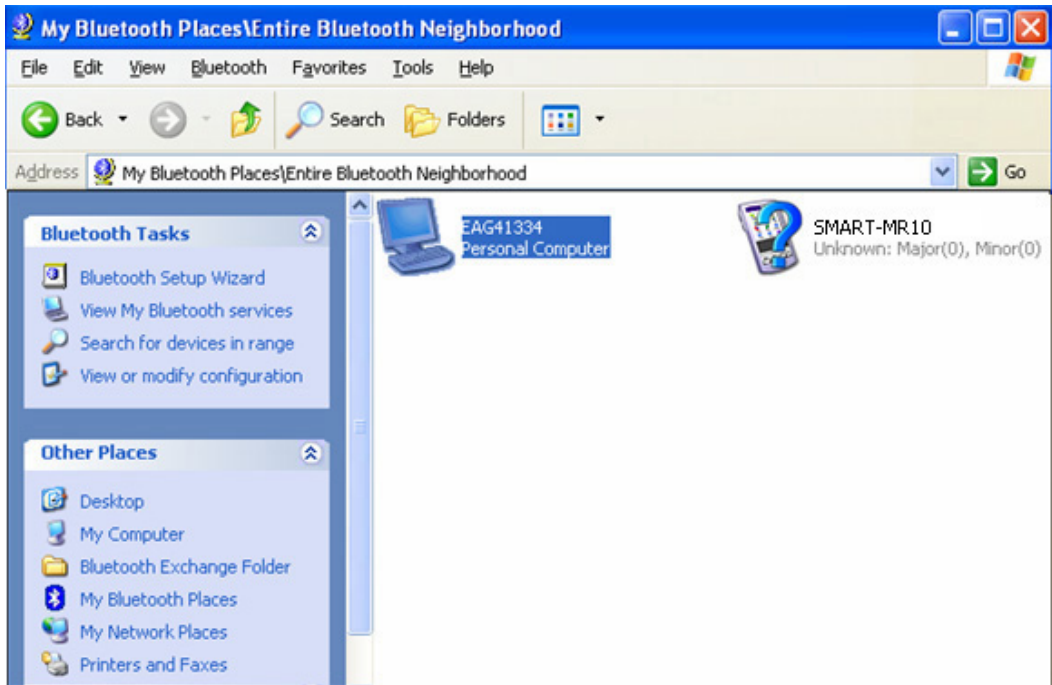

Figure 31: My *Bluetooth* Places Window
3. Click the *Search for devices in range* option from the *Bluetooth Tasks* side bar on the left of the *My Bluetooth Places* window. Devices with *Bluetooth* wireless technology enabled within range appear in the *Entire Bluetooth Neighborhood* folder, as shown in *Figure 31*.
1. Double-click the SMART-MR10 or SMART-MR15 device icon in the *Entire Bluetooth Neighborhood* window, as shown in *Figure 31*. The PC/laptop searches for available services. If *Bluetooth* is working properly, a COM port service appears.
2. Click the *Search for devices in range* option from the *Bluetooth Tasks* side bar on the left of the *My Bluetooth Places* window. Devices with *Bluetooth* wireless technology enabled within range appear in the *Entire Bluetooth Neighborhood* folder, as shown in *Figure 31* on page 71.